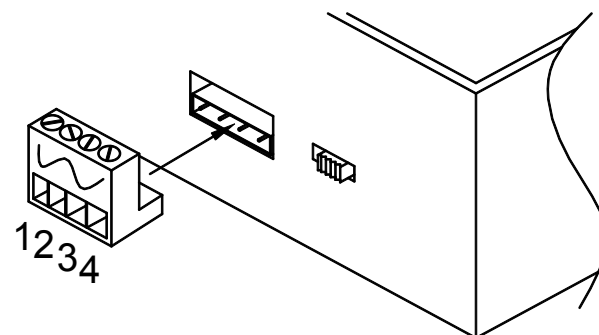

FIGURE 4. SENSOR TO CONTROL SETUP
1. Unplug the connector from the controller unit and orient it as shown in figure 4.
Place BIT switches 1 on and 2 off (remaining switches can be either on or off.) Switch controller to 'AUTO.' Allow the sensors to come to thermal equilibrium (about one half hour.) Short the screws in positions (see figure 4) 1 and 2 and the controller should turn on. Next, place the collector sensor in a cup of hot water; this should turn the controller on. With the storage sensor screws shorted (positions 3 and 4), the controller should turn off. If the controller does not respond to these tests, consult the manufacturer.